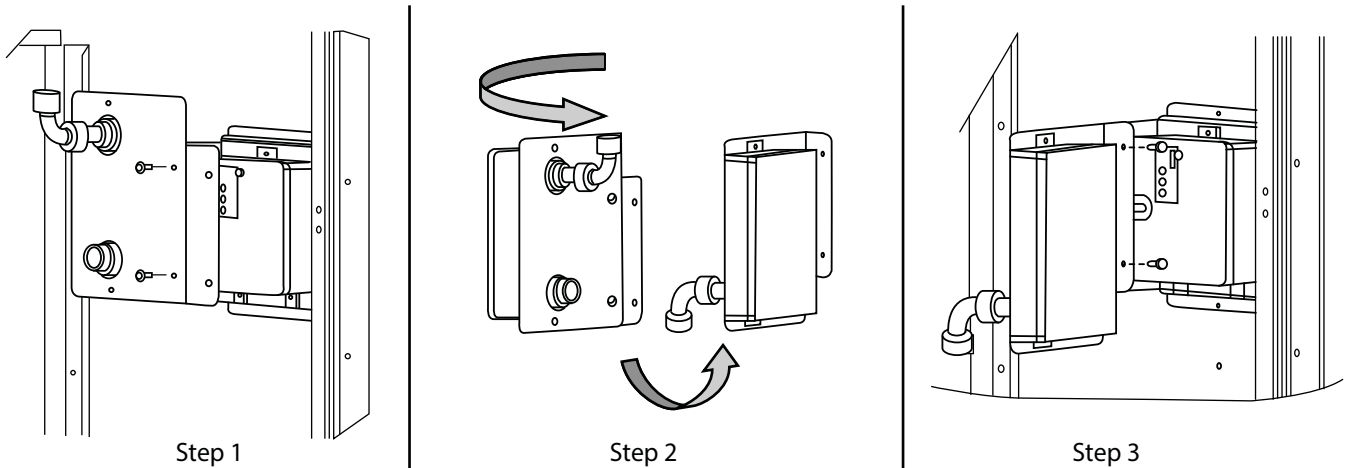

Fig. 90 — Completing Installation of Return Air Smoke Sensor
1. Unscrew the two screws holding the Return Air Smoke Detector assembly. See Fig. 90, Step 1.
3. Turn the assembly 90 and then rotate end to end. Make sure that the elbow fitting is pointing down. See Fig. 90, Step 2.
4. Screw the sensor and detector plate into its operating position using screws from Step 1. See Fig. 90, Step 3.